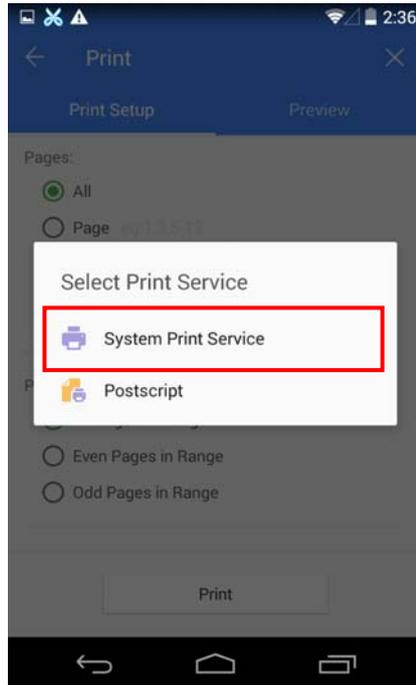

Figure 29
- 4.5 When the “Select Print Service” interface pops up, select “System Print Service”, as shown in Figure 29;